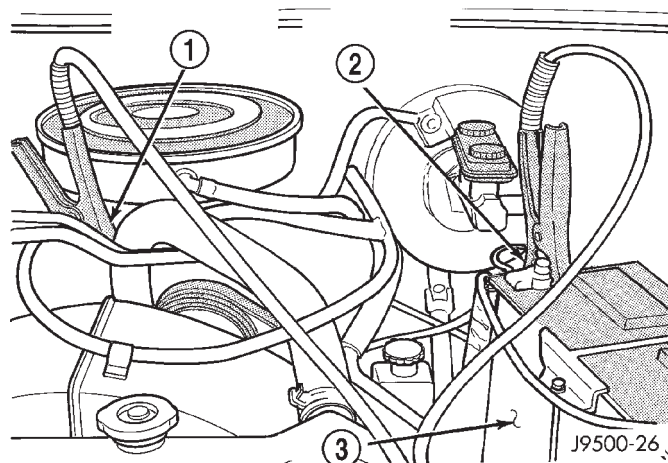
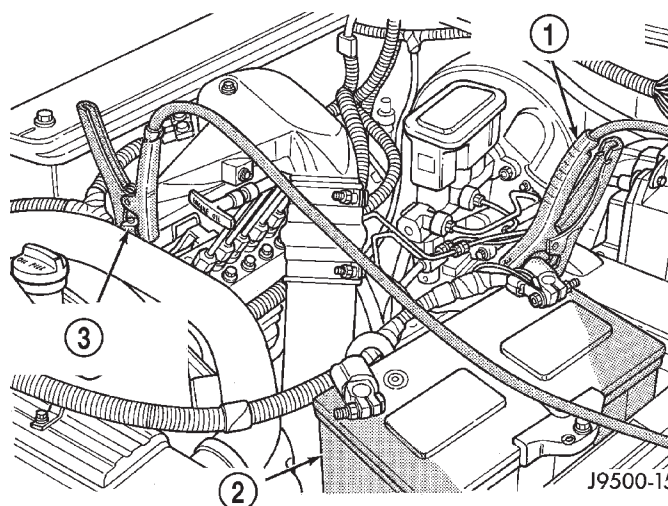

Fig. 7 Jumper Cable Clamp Connections—Gas Engine
Fig. 8 Jumper Cable Clamp Connections—Diesel Engine
(2) When using another vehicle as a booster source, park the booster vehicle within cable reach. Turn off all accessories, set the parking brake, place the automatic transmission in PARK or the manual transmission in NEUTRAL and turn the ignition OFF.
(3) On disabled vehicle, place gear selector in park or neutral and set park brake. Turn off all accessories.
(4) Connect jumper cables to booster battery. RED clamp to positive terminal (+). BLACK clamp to negative terminal (-). DO NOT allow clamps at opposite end of cables to touch, electrical arc will result. Review all warnings in this procedure.
(5) On disabled vehicle, connect RED jumper cable clamp to positive (+) terminal. Connect BLACK jumper cable clamp to engine ground as close to the ground cable attaching point as possible (Fig. 7) and (Fig. 8).
(6) Start the engine in the vehicle which has the booster battery, let the engine idle a few minutes, then start the engine in the vehicle with the discharged battery.